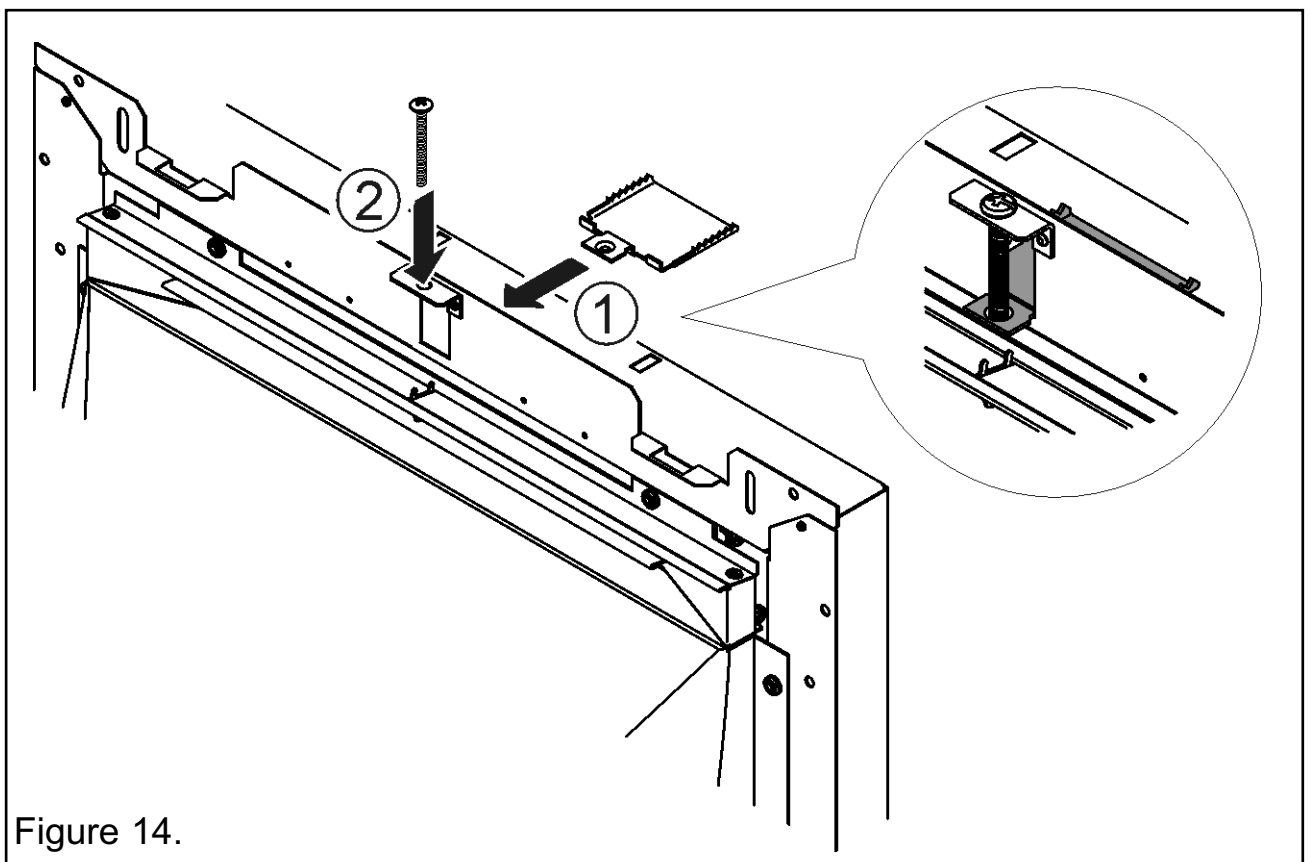

Figure 14.
1. Locate the clamp as in item 1 of figure 14. Place the screw through the upper bracket on the heater and locate into the clamp - item 2 of figure 14. It is only necessary to locate the screw, do not continue to turn it as this will elevate the clamp.